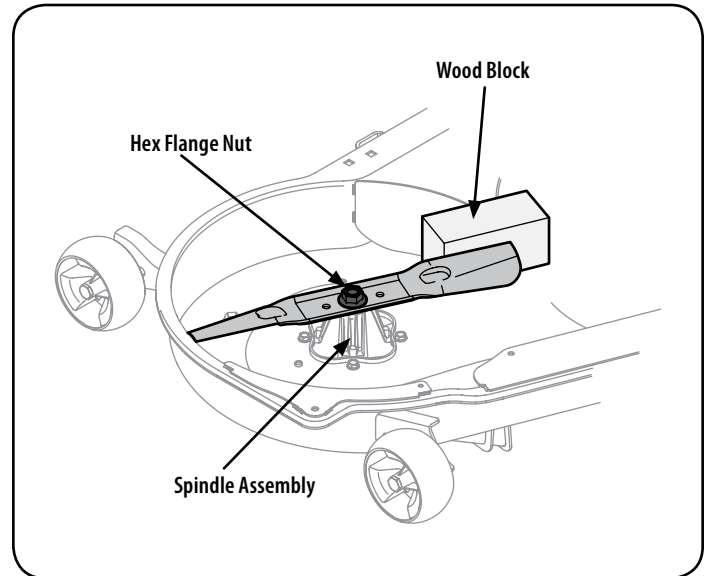

Figure 39
2. Use a  $1\frac{5}{16}$ " wrench to hold the hex nut on top of the spindle assembly when loosening the hex nut securing the blade. A block of wood may be placed between the deck housing and the cutting edge of the blade to help in breaking loose the hex nut securing the blade. See Figure 39.